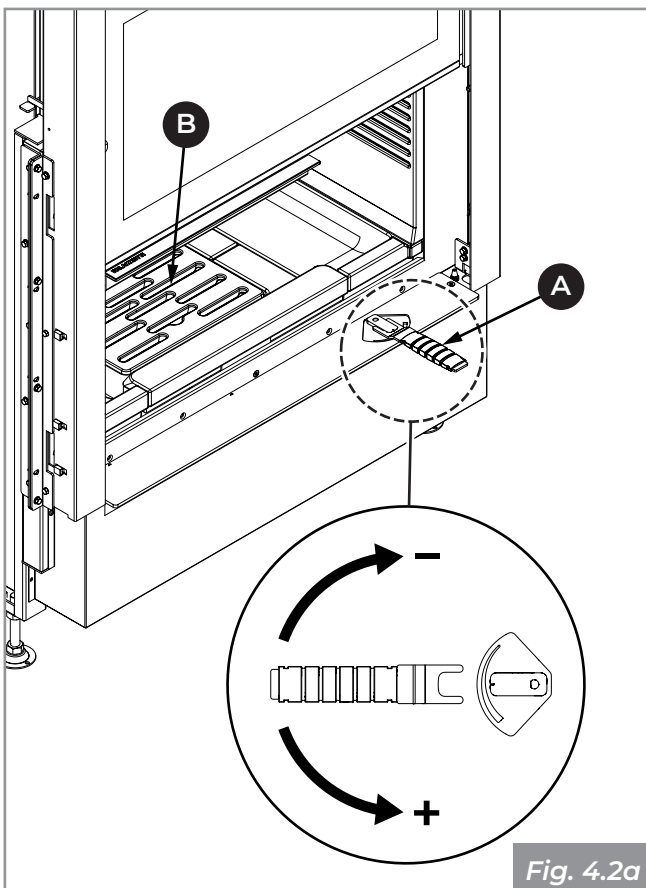
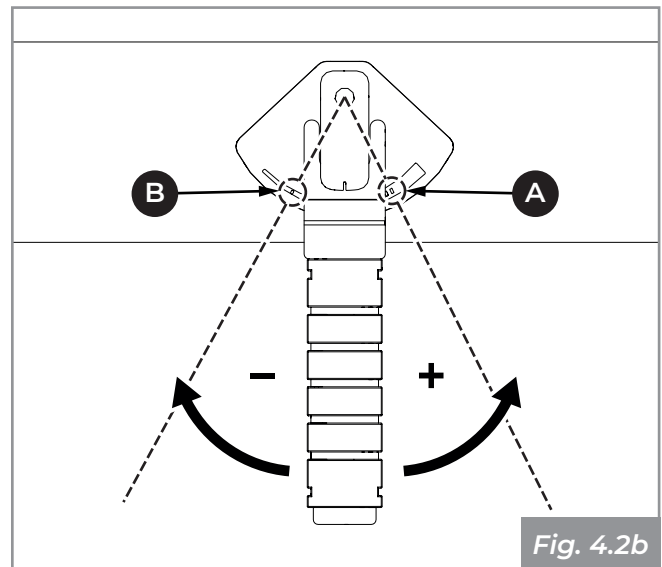
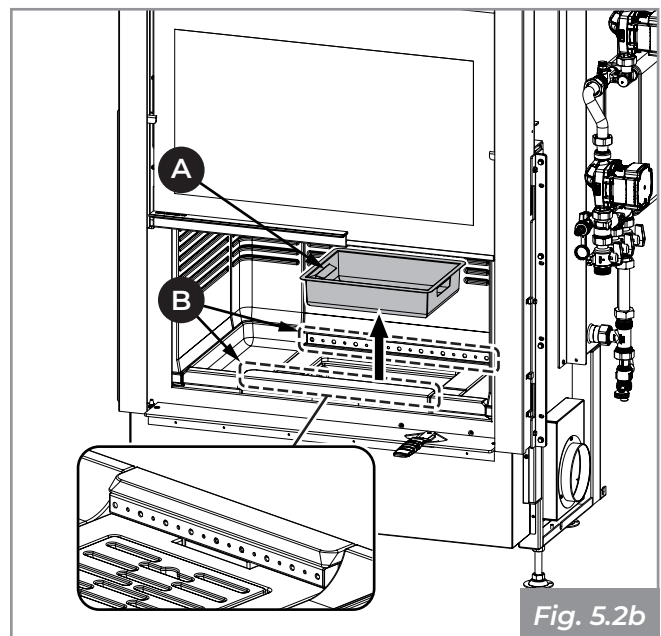

Fig. 4.2a
Fig. 4.2b
Fig. 5.2b
2. Using the cold handle (provided) **(A - Fig. 4.2a)**, fully open (+) the main air adjustment **(A - Fig. 4.2b)**;
3. Carefully place the logs in the combustion chamber, making sure not to completely cover the slots in the grill **(B - Fig. 4.2a)** and the front and rear holes of the combustive air distributor **(B - Fig. 5.2b)**;
8. Keep the air inlet open to ensure a high, bright flame **(A - Fig. 4.2b)**;
9. Only reduce the air inlet aperture **(B - Fig. 4.2b)**, using the special cold handle, once a good base of embers has formed.
Pull the ash drawer out from the base and vacuum up any ash deposited in the compartments underneath (**A - Fig. 5.2b**).
Vacuum the front and rear holes of the combustible air distributor to prevent any accumulation of ash (**B - Fig. 5.2b**).